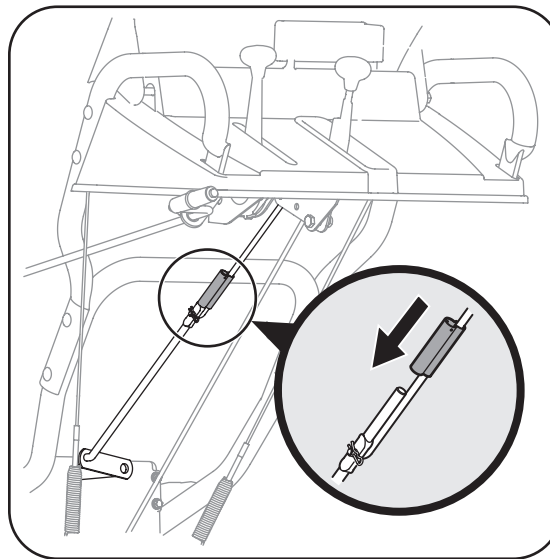

Figure 6
- Align the upper and lower shift rods, then slide the shift rod connector down over the end of the lower shift rod. Tap the connector until the lower rod is completely through the connector. See Figure 6.